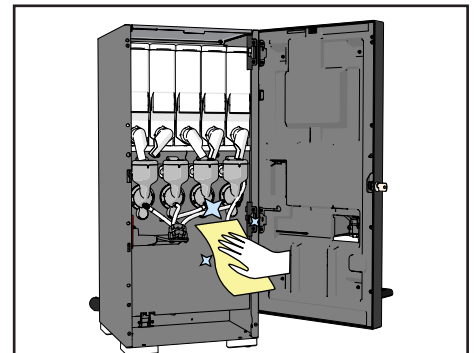

Figure 28.
14. Clean the inside of the machine (see Figure 28).